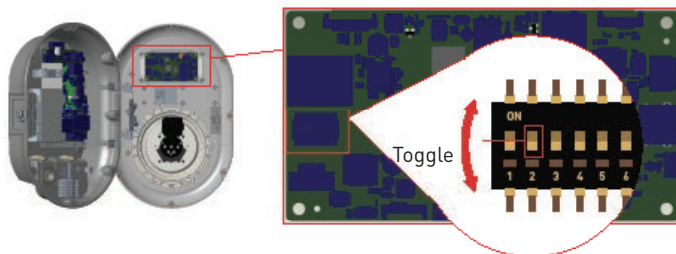

Figure.29
- Toggle the second position of dip switch which is on the smart card of the charger shown in figure 29. After that please turn on the charger again.